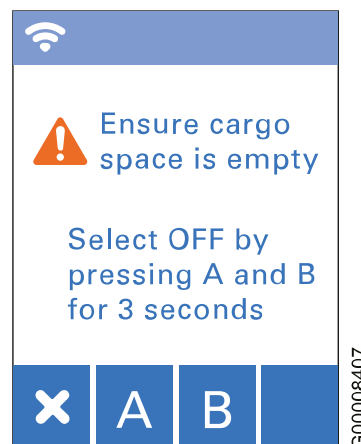

Fig. 35 Turn Temperature Control OFF
2. Press  to select **Temp Control Off**. The display will show the text in **Fig. 35**.